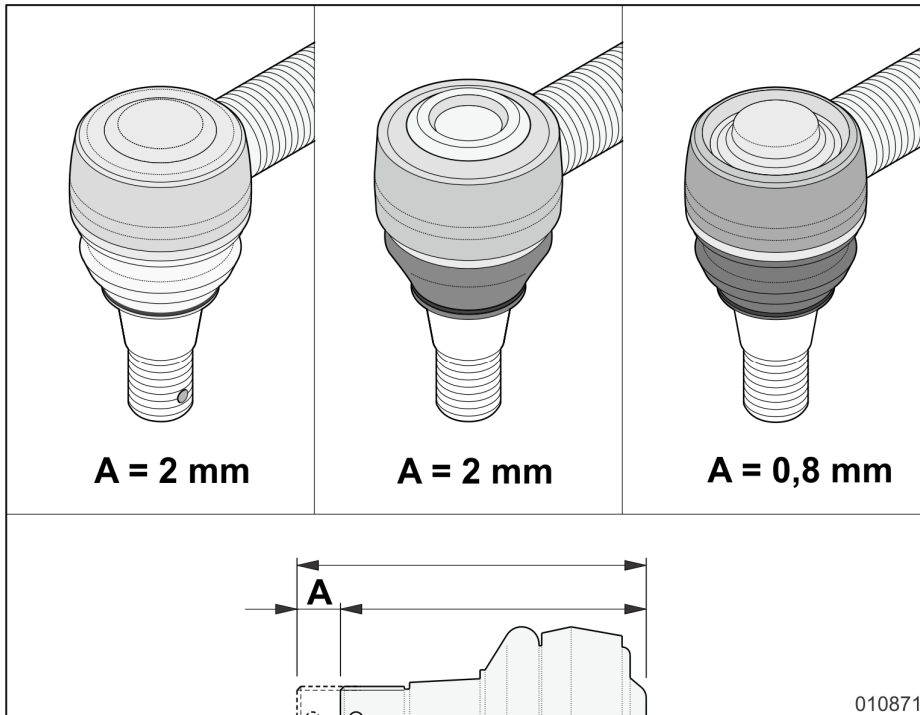

Figure 4: Maximum permissible play ("A" in figure)
- 3) Position the dial indicator stylus with a slight pre-pressure perpendicular against cover (3).
- 4) By using adjustable joint pliers, press the joint and read on the dial indicator the compression of ball-joint pillar (5) . Compare the measured value to the maximum permissible play shown in figure 4.